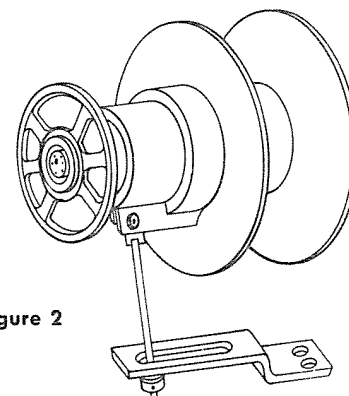

Figure 2
7. The control hub of the MSM must be tied down to keep it from rotating (Figure 2).